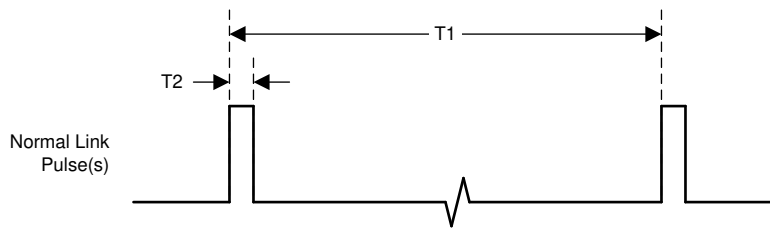

图 7-13. Normal Link Pulse(s) Timing
- (1) Ensured by production test, characterization or design.
(2) See 图 7-13.